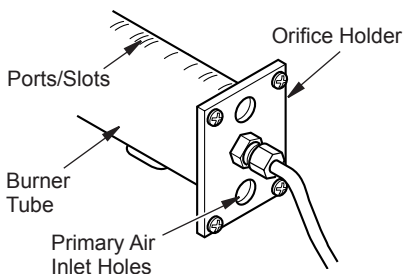

Figure 67 - Orifice Holder On Outlet Burner Tube
2. Inspect burner, pilot and primary air inlet holes on orifice holder for dust and dirt (see Figure 67).